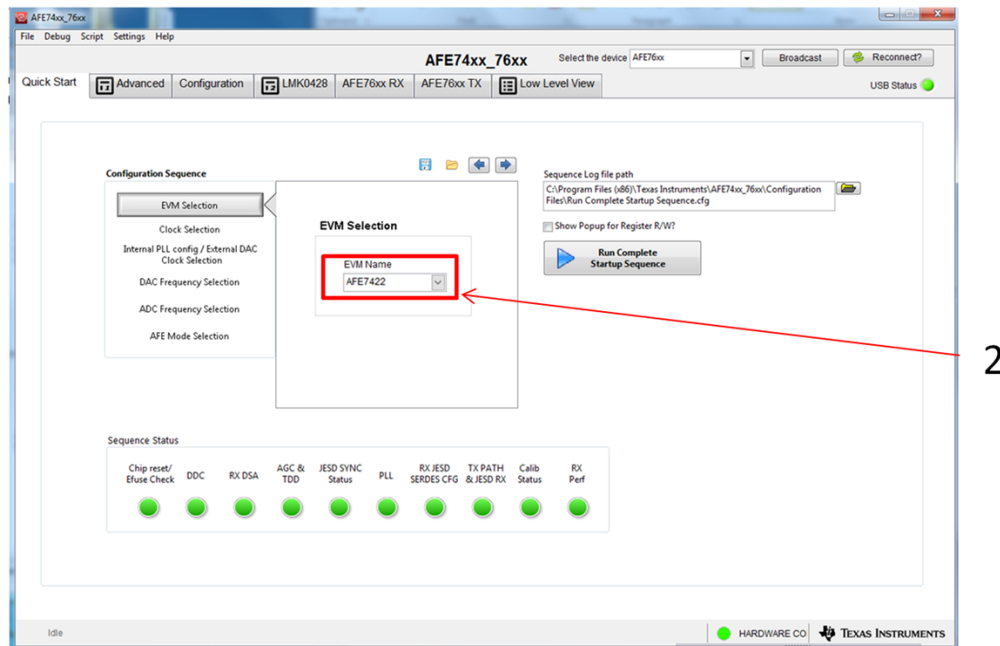

Figure 9. EVM Selection Page
1. Run the AFE74xx EVM\_76xx GUI as administrator. The quick start page shown in Figure 9 appears.
2. Under *EVM Selection*, verify that the EVM name shown matches the EVM in operation, labeled as 2 in Figure 9